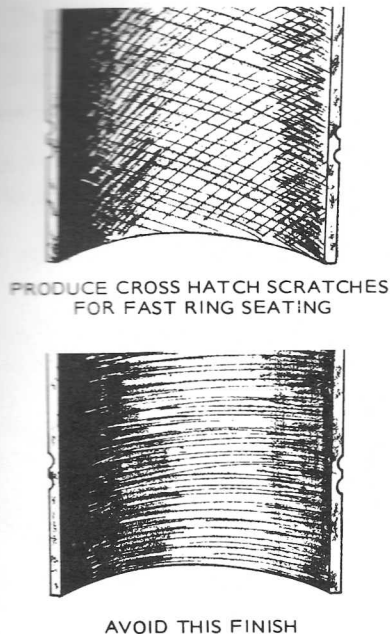

FIGURE 28. CROSSHATCHING
7. When the cylinder is approximately 0.002" (0.05 mm) within the desired bore, change to fine stones and finish the bore. The finish should not be smooth but as shown in Figure 28. The cross-hatch formed by the scratching of the stones should form an angle of 23°. This can be achieved by moving the hone up and down in the cylinder about 40 cycles per minute.